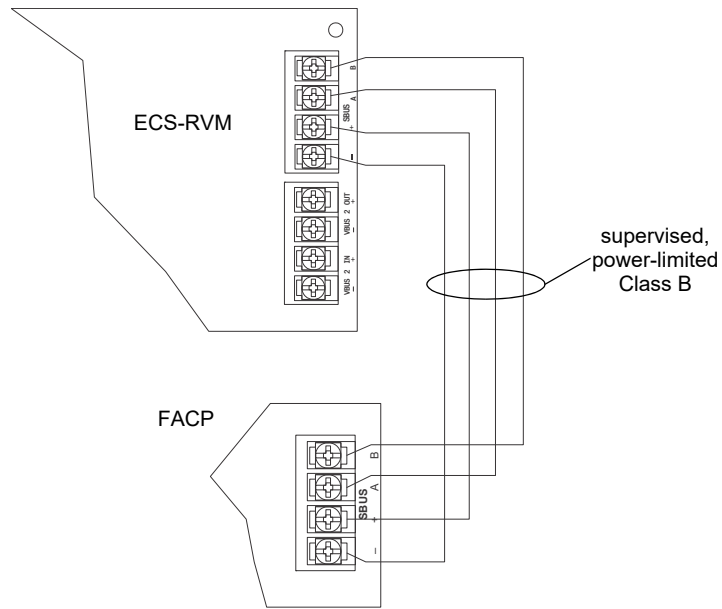

Figure 4.71 ECS-RVM SBUS Connections
1. Refer to Figure 4.71 to properly connect the ECS-RVM to the FACP's SBUS.